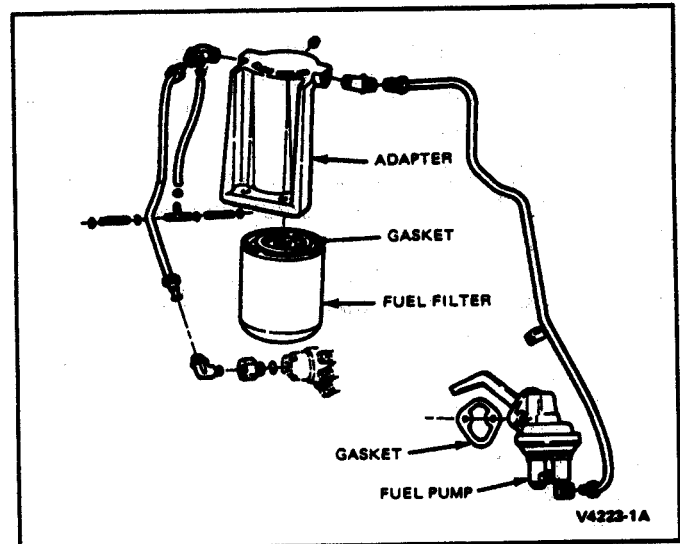

FIG. 2 Fuel Filter, Injection Pump and Lines—Exploded View
2. Lightly coat filter sealing gasket with clean diesel fuel (Fig. 2).